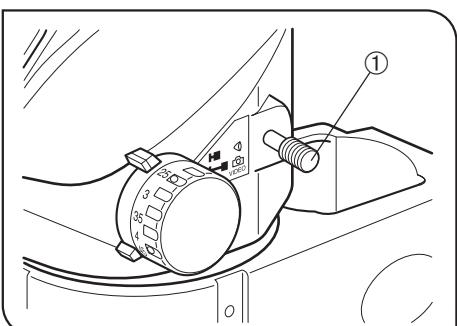

Fig. 11
(Fig. 11)
1. For observation through the binocular light path, push in the light path selector lever ① till the stop position. (Fig. 11)
2. For the TV camera light path, pull out the light path selector lever ① till the stop position. (Fig. 11)